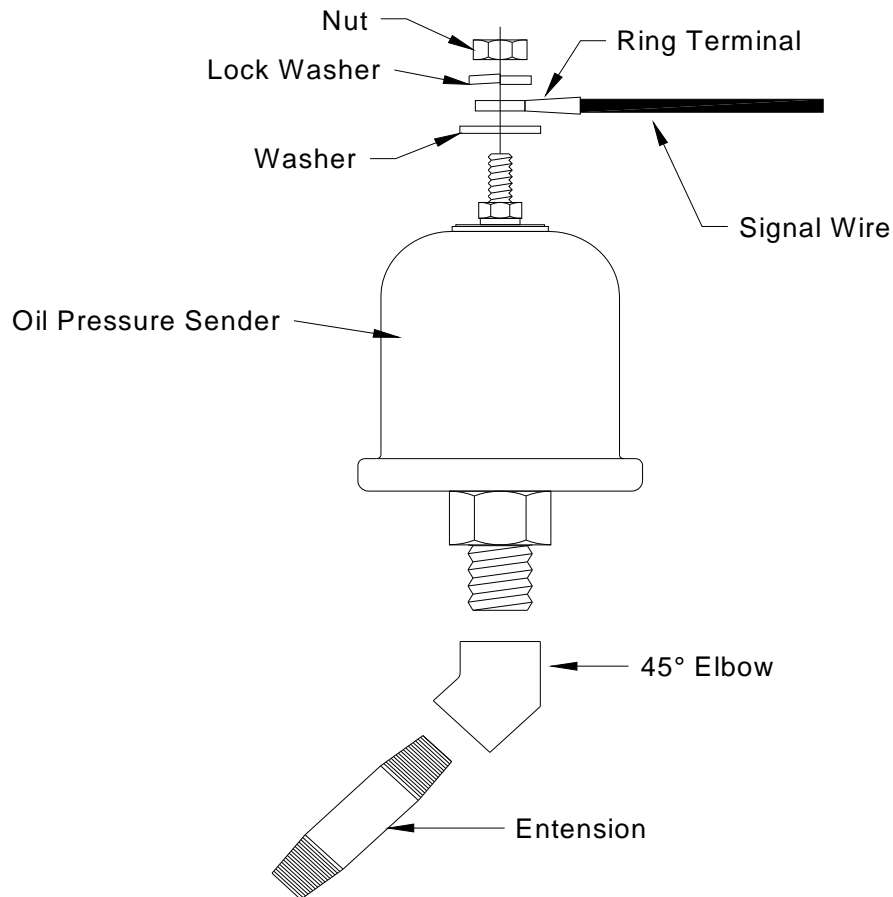

Figure 5: Connecting the oil pressure sender
- Step 2:** Connect the oil pressure sender to the **dark blue** wire on the 9 pin connector [position B] of the instrument wire harness. See Figure 5 below.